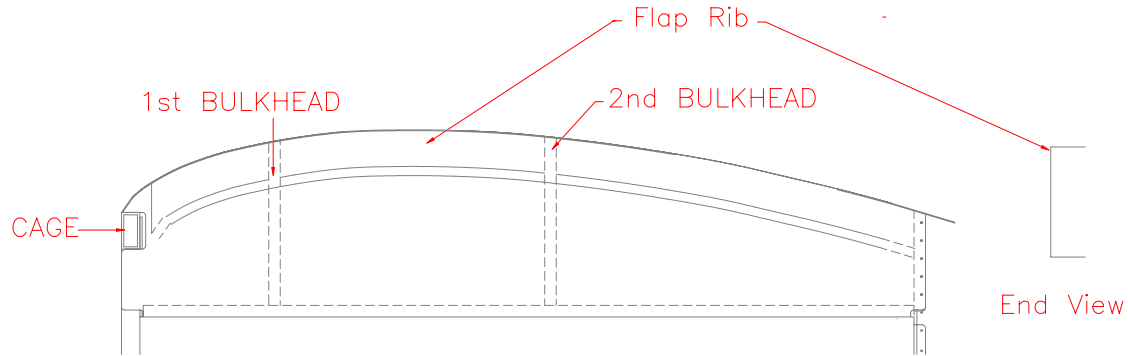

Figure 15.13.1
- 1) Cut the left and right Flap Stiffener Ribs (FLAP-65 and FUS-65) to fit between the cage and the first bulkhead and between the first and second bulkhead. FUS-65 also goes between the 2nd bulkhead and the 3rd bulkhead Figure 15.13.1.